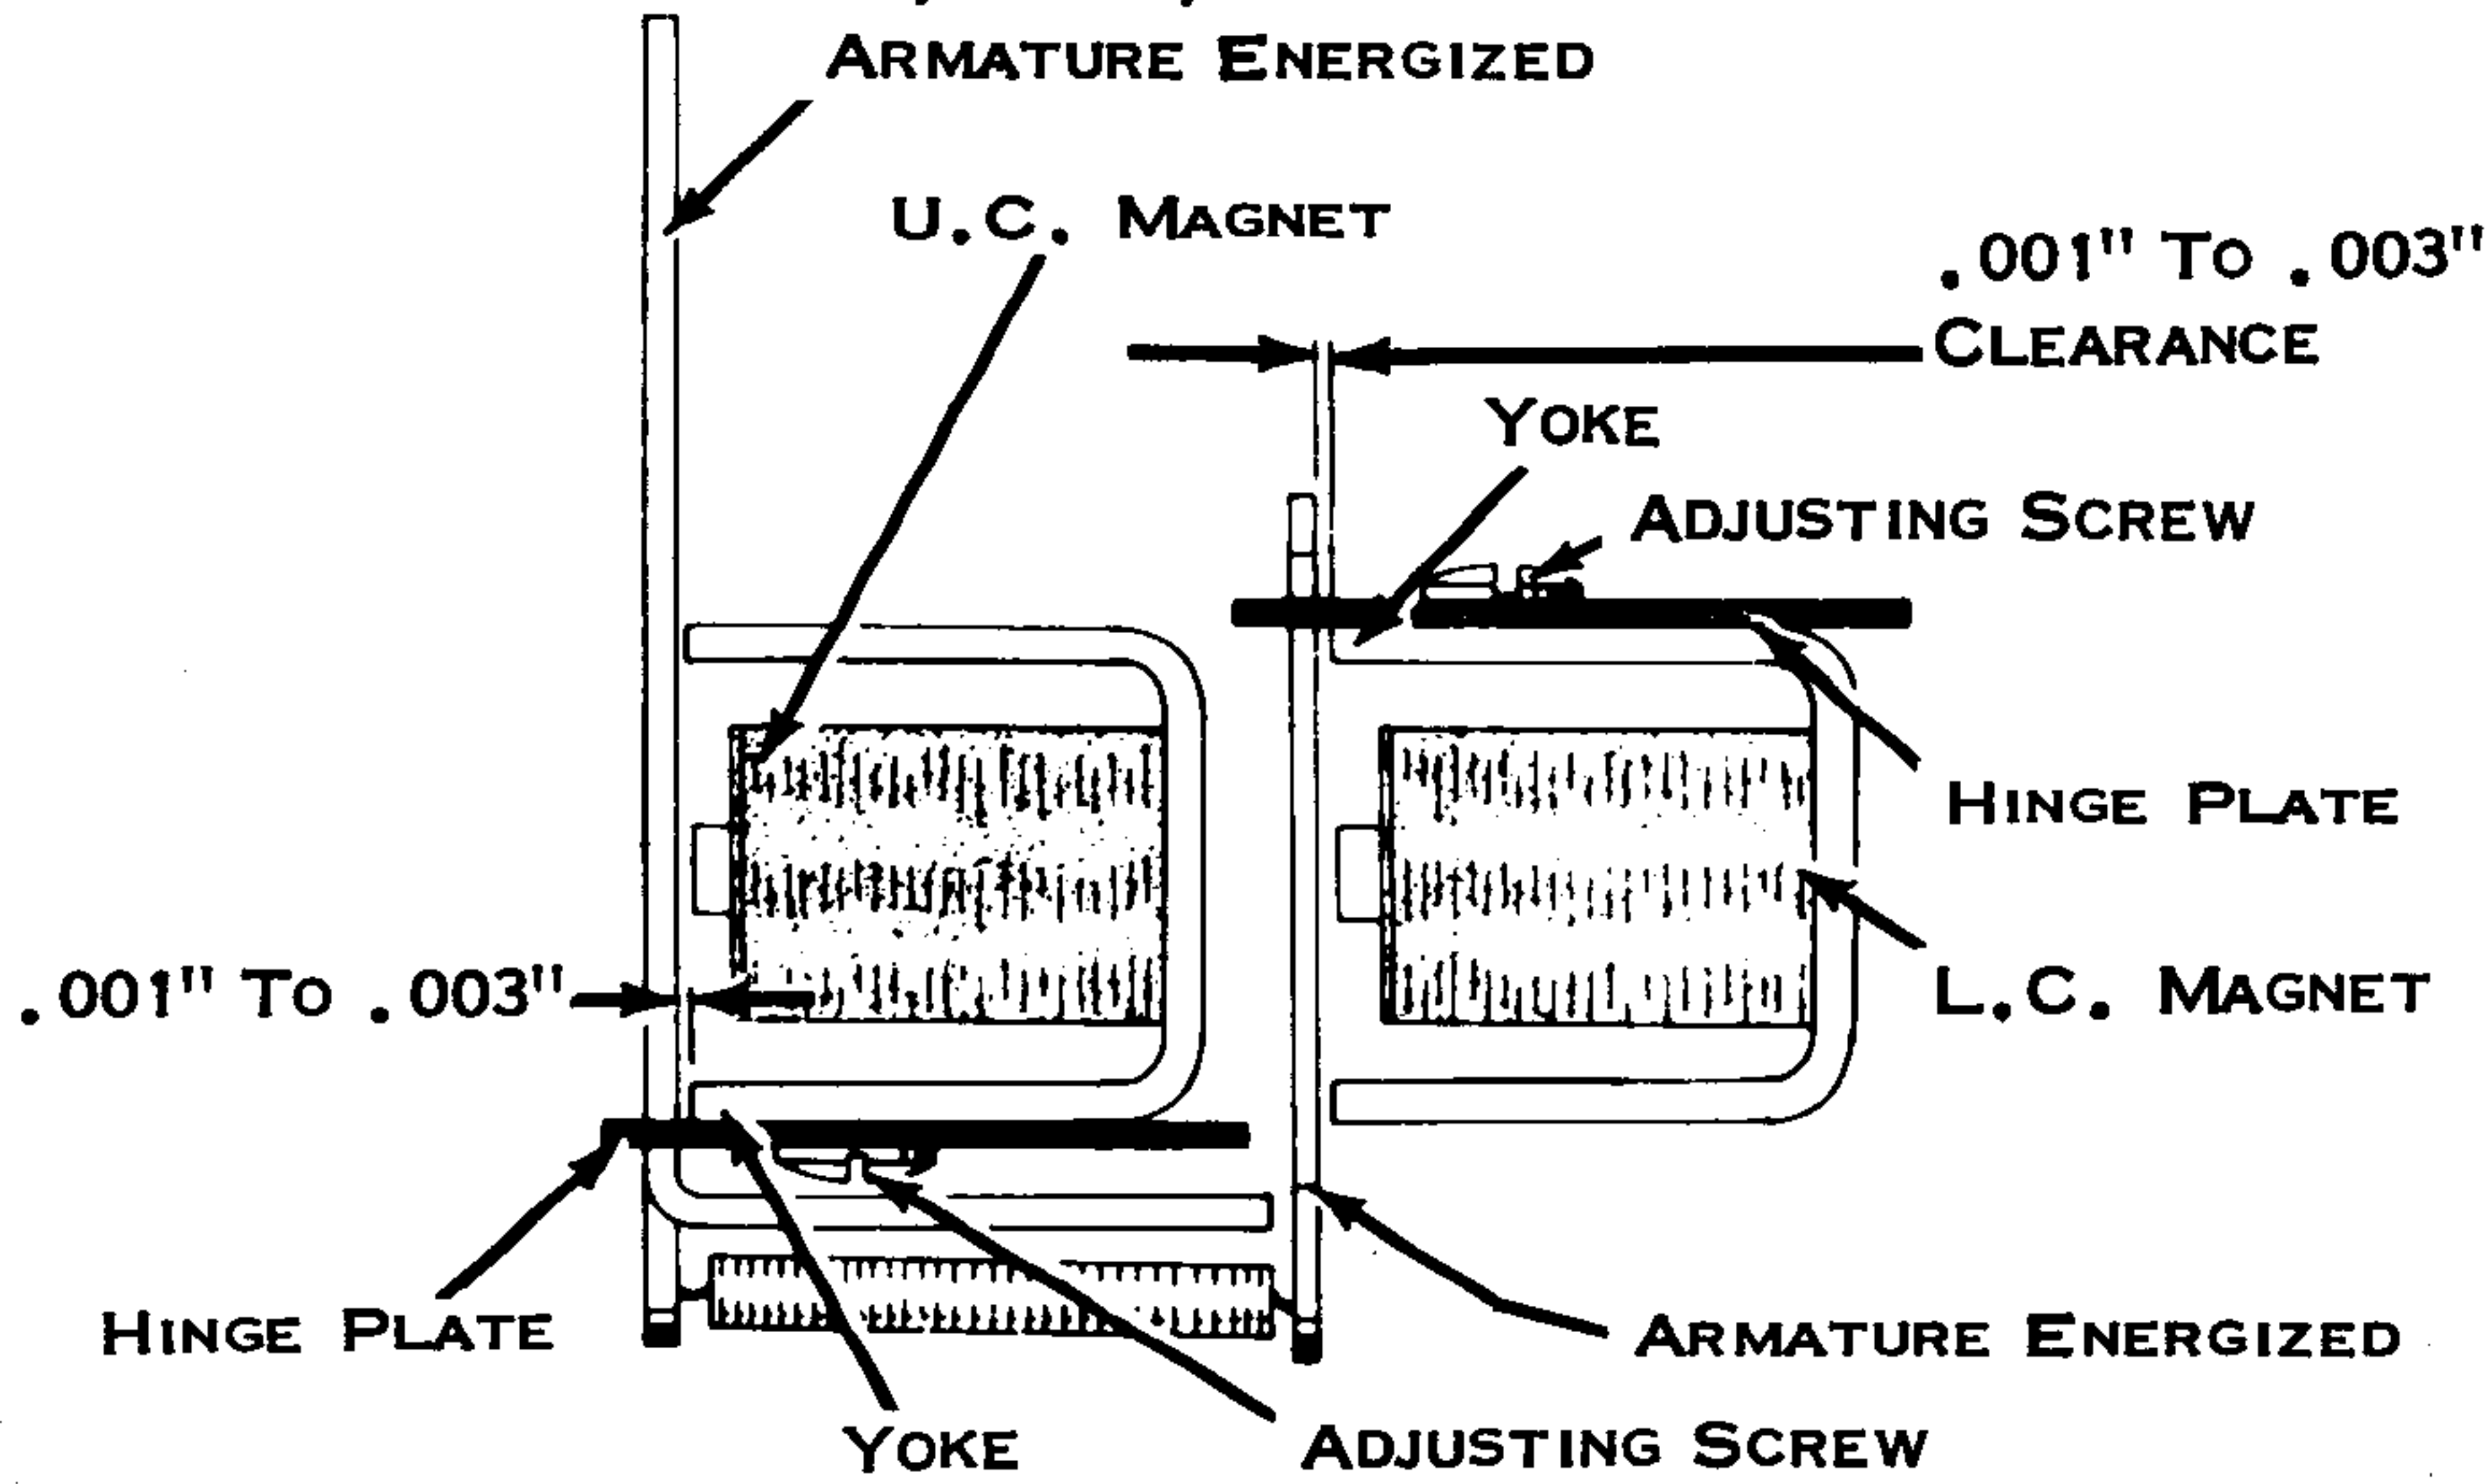

Figure 93. Hinge Plates
1. Hinge Plates (Fig. 93) - Position (magnets energized) so that the armatures clear the yokes by .001" to .003".